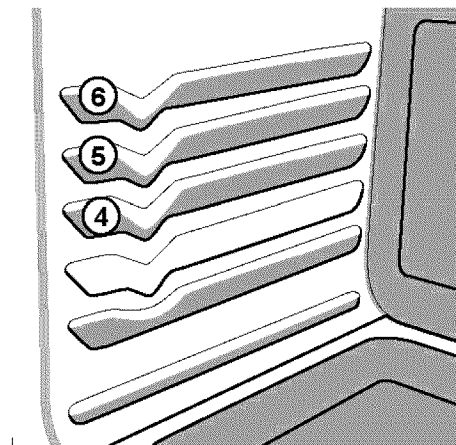

Fig. 2
2.	Arrange the interior oven rack- p. 23 Figs. 2 &amp; 3- for position recommendations. Be sure to place the prepared food and pan directly under broil burner. Close the oven door.